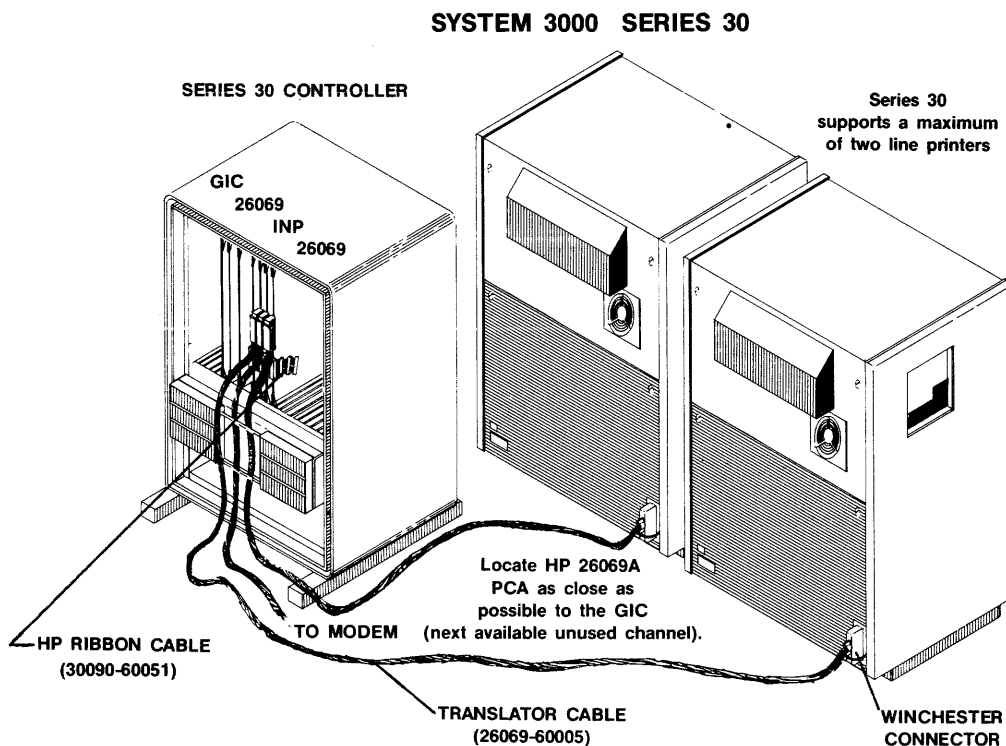

Figure 2-1. HP 26069A Cable Configuration For Series 30
1. Connect the hooded edge connector of the Translator Cable (26069-60005) to the Translator PCA and route this cable out the bottom of the cabinet (refer to figure 2-1).